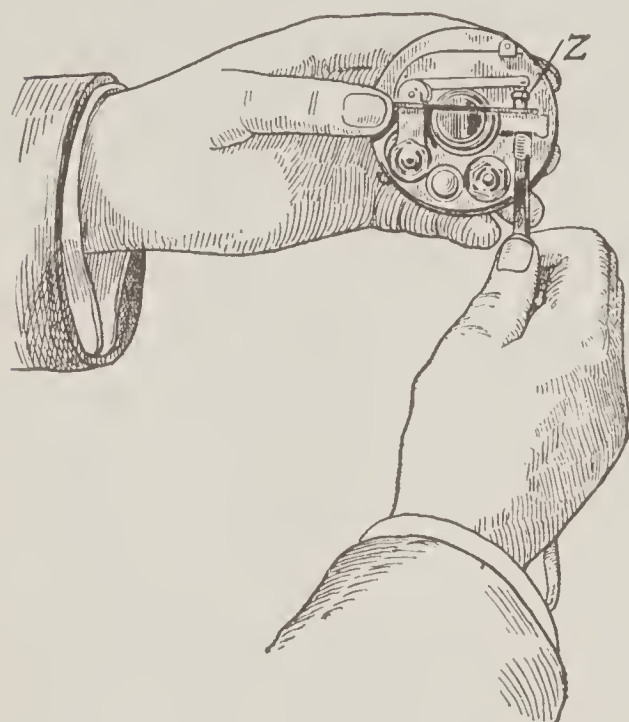

Fig. 143. Method of Adjusting Magneto Contact Points
i.e., a piece of paper must pass between them without getting jammed", Fig. 143.
A. The result of wear will usually be to increase the distance between the points, but the writer has experienced the opposite on an old car where the cam apparently wore down faster than the points and prevented their opening. This was probably due to improper hardening of the cam itself or to the fact that the roller was harder than the cam. Many of the later models do not employ a roller in the movable contact arm, the cam striking directly against a projection on the arm itself (see Eisemann interrupter, Fig. 143). An example of the roller type, is the K-W interrupter, Fig 69.